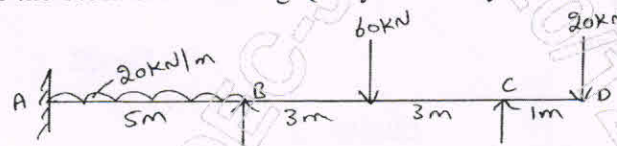

Fig.Q8
- 8 Analyze the beam shown in Fig.Q8 by flexibility matrix method. Draw BMD.